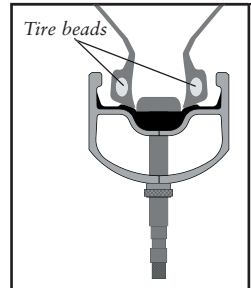

Figure 4- Beads straddling the valve stem
5. Continue mounting the tire- check the location and orientation of the tire beads in the rim (Figure 4).